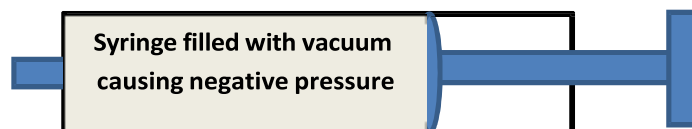

Fig.1 Negative pressure example
- It is same as withdrawing venous blood from the syringe, by pulling piston back the vacuum is created which act as negative pressure and the venous blood flows in the syringe.(Fig.1)